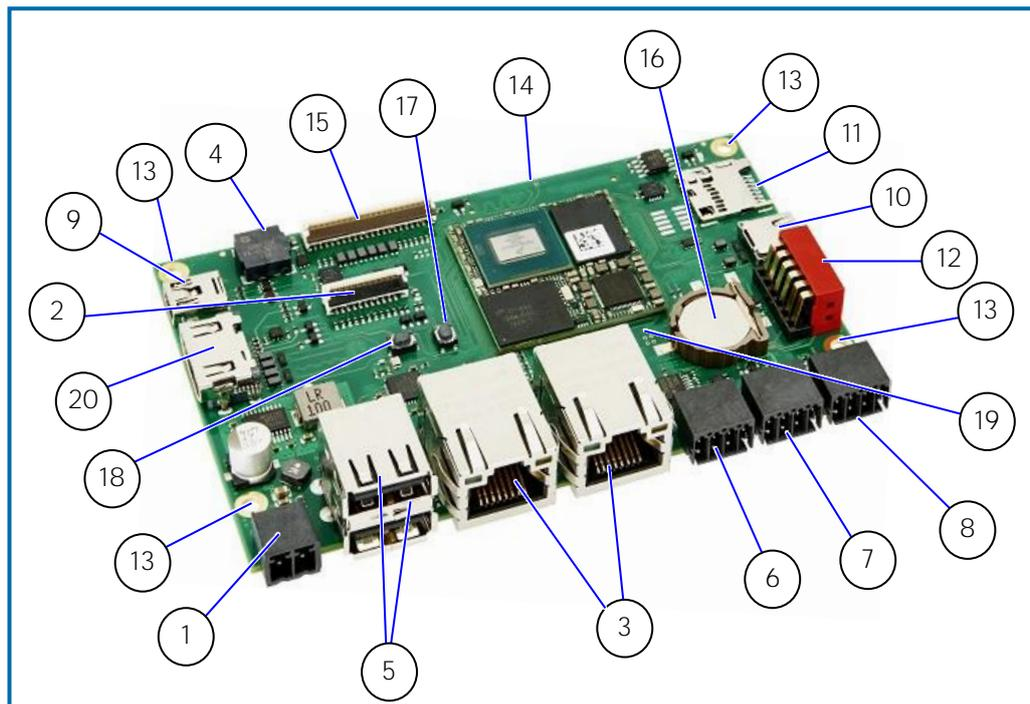

Figure 7: Top Side View
There is one 2-pin power connector on the top side of the board supporting an input DC voltage range of 24 V DC $\pm 20\%$, see Figure 7 (pos. 1). The mating connector required to connect the power connector to a DC main power source is supplied with the BL i.MX8M Plus QC. For information on how to connect the supplied mating connector to the input power source, refer to Chapter 7.2: Wiring the DC Mating Power Connector.
There is a 2-lane MIPI CSI interface (1080p @30 fps) for camera solutions, see Figure 7 (pos. 2).
There are two LAN ports, see Figure 7 (pos. 3). In the software these are referred to as ETH0 and ETH1. The assignment between LAN2/LAN1 and ETH0/ETH1 depends on the software. In order to achieve the specified performance of the Ethernet ports (1 Gbit/s), shielded category 5E, 6 or 6E twisted pair cables must be used. For the pin assignment of the RJ45 Ethernet connectors, refer to Chapter 10.2.3: Ethernet RJ45 Connector (X1001 + X1101)
There is a buzzer connected to PWM_1 (F18) via a N-channel MOSFET, see Figure 7 (pos. 4).
There are two USB 2.0 ports allowing for the connection of USB 2.0 compatible devices, see Figure 7 (pos. 5). The USB ports are designed for connecting short cables only.
There is a RS232 interface (RX/TX) supporting RTS/CTS, see Figure 7 (pos. 6). The RS232 interface is not designed for connecting cables longer than 3 m.
The RS485 interface in Figure 7 (pos. 7) contains also the wiring for CAN. The RS485 interface is not designed for connecting cables longer than 30 m.
The CAN interface in Figure 7 (pos. 7) also contains the wiring for RS485. The CAN address switches 1..4 are connected directly to GPIO pins and can therefore also be used for other purposes. The CAN interface is not designed for connecting cables longer than 30 m.
There is a four port DIO interface available on the front of the BL i.MX8M Plus QC, see Figure 7 (pos. 8).
There is a debug interface using UART protocol with a Mini-B USB connector, see Figure 7 (pos. 9).
There is a USB 3.0 Type-C DRP interface that can act as USB device or host, see Figure 7 (pos. 10).
There is a card slot to connect a microSD card for extra memory, see Figure 7 (pos. 11).
The GND pin of the power connector is connected to functional earth of the electronics and to the four mounting holes on the edges of the circuit board, see Figure 7 (pos. 13).
There is an extension connector for connecting customized add-on boards, see Figure 7 (pos. 14).
There is a LVDS interface to connect a LVDS display, see Figure 7 (pos. 15).
There is a Power Button to shut down the device, see Figure 7 (pos. 17).
There is a Reset Button to restart the device, see Figure 7 (pos. 18).
There is a switch to activate or deactivate the recovery mode, see Figure 7 (pos. 19).
There is one HDMI interface (up to 4k resolution) for video solutions, see Figure 7 (pos. 20). The HDMI interface is not designed for connecting cables longer than 3 m. Depending on the monitor and the installation situation, a suitable HDMI cable with folding ferrite must be selected.